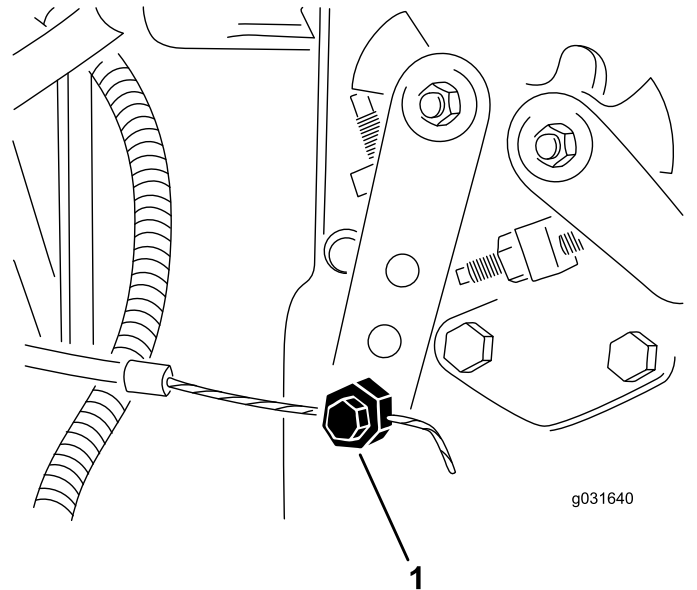

Figure 57
2. Loosen the throttle-cable connector on the injection-pump-lever arm (Figure 57).